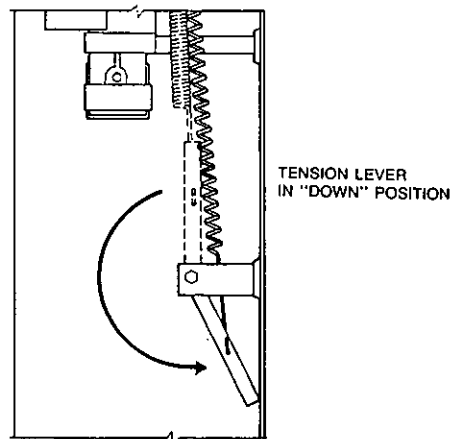

FIGURE 18
21. Lower tension lever to "DOWN" position. See Figure 18.